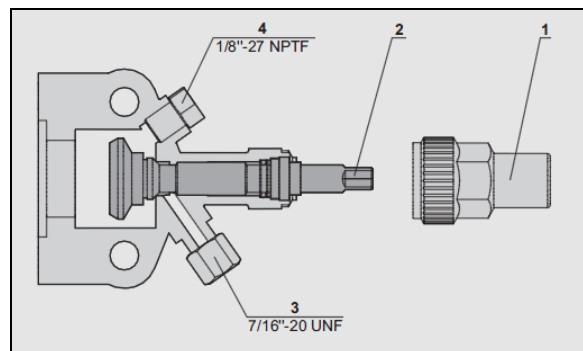

FIGURE 20: COMPRESSOR SHUT-OFF VALVE BACKSEATED POSITION (NORMAL OPERATING POSITION)
4. Backseat the compressor suction shut-off valve (FIGURE 20), install an appropriate pressure gauge set on the service port and then turn the shut-off valve forward $\frac{1}{4}$ turn more or less until a visual check of the suction pressure is possible.
13. Shut down engine and backseat suction and discharge shut-off valves (FIGURE 20).
2. Backseat (stem out) the two compressor shut-off valves (FIGURE 20).
3. Install A/C pressure gauges at the compressor shut-off valves service ports (item 4, FIGURE 20).